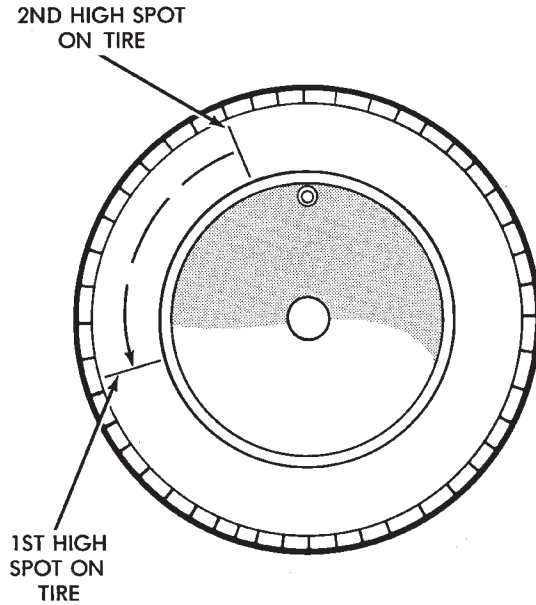

Fig. 10 Remount Tire 90 Degrees In Direction of Arrow
- If the high spot is NOT within 102 mm (4.0 in.) of either high spot, draw an arrow on the tread from second high spot to first. Break down the tire and remount it 90 degrees on rim in that direction (Fig. 10). This procedure will normally reduce the runout to an acceptable amount.